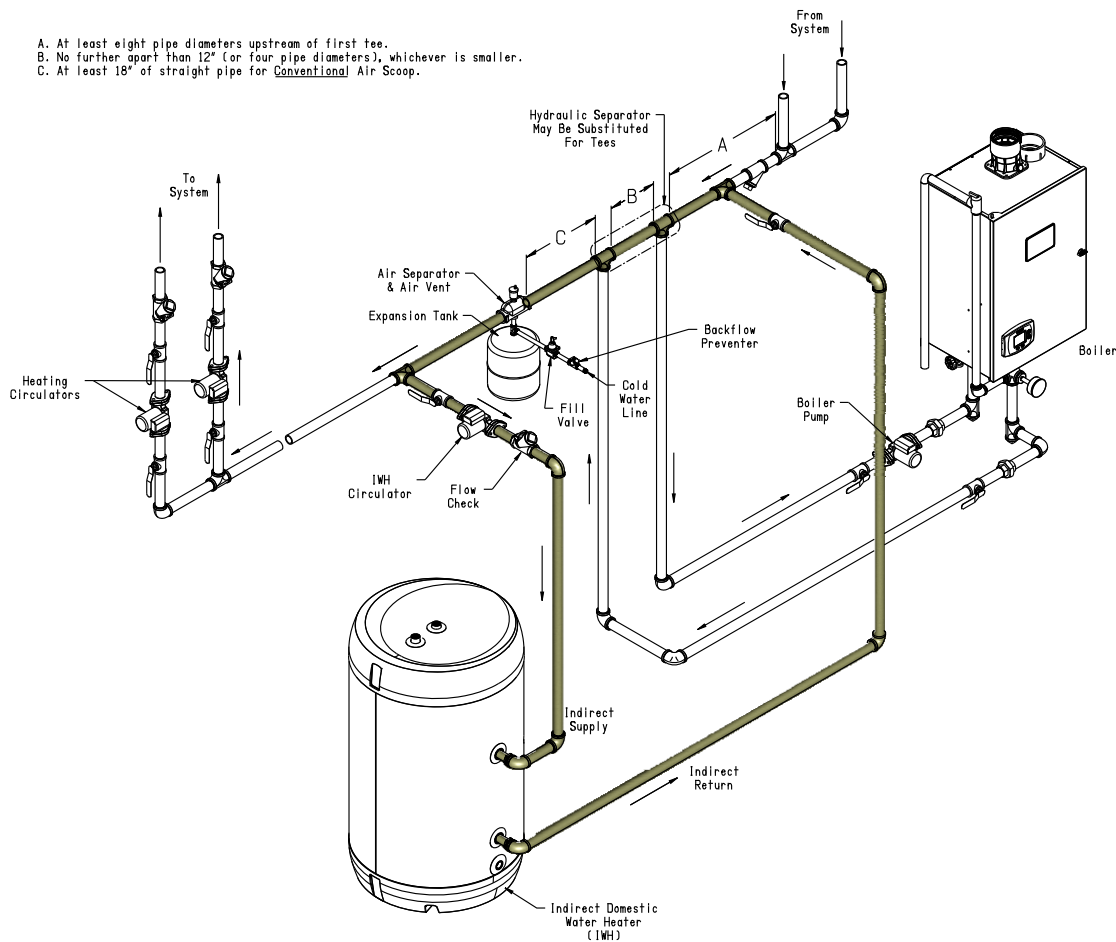

Figure 5.4 Primary-Secondary Piping of Indirect Water Heater
- b. The equivalent length of most cast iron boilers can be safely treated as zero. This is often not the case, however, with condensing and water tube boilers. In such cases either use primary-secondary piping (Figure 5.4) or use an alternate method to size the pump and piping.
4. If primary-secondary piping is used as shown in Figure 5.4, calculation of equivalent length is exactly the same as shown above, except that IWH loop is the shaded piping in Figure 5.4 (i.e. the IWH loop does not pass through the boiler).